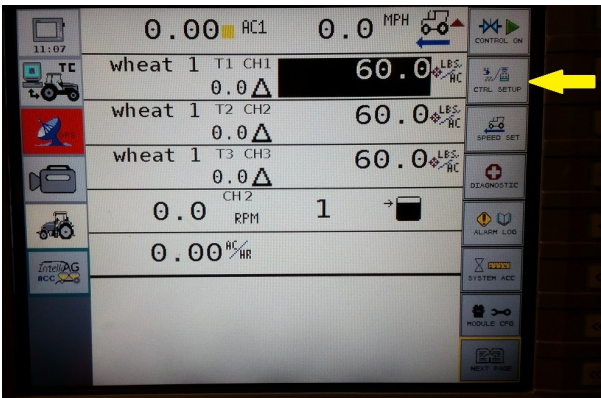

Figure 43
Step 3. Select **Control Setup** (Figure 43)